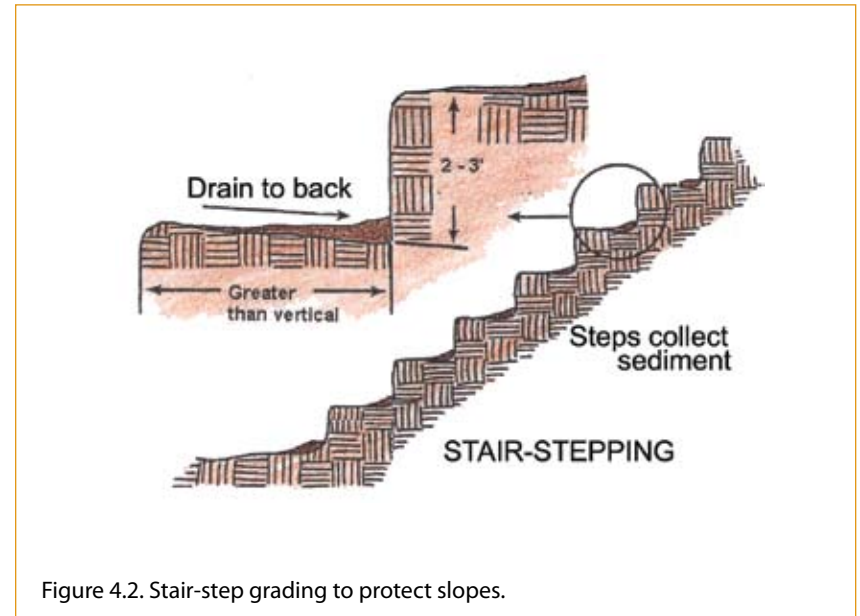

Figure 4.2. Stair-step grading to protect slopes.
**Stair-step grading:** Cutting stair-steps into slopes. Each step slopes towards the vertical wall (Figure 4.2). This works well with soils containing large amounts of small rock.